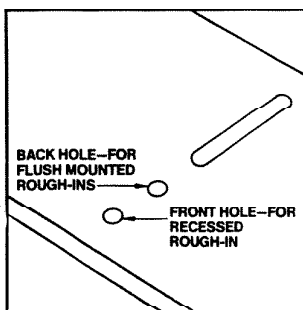

FIGURE 13
2. **For rough-in frames which are recessed into the wall opening.** Insert two shoulder screws (provided) into the front two holes in the rough-in frame. See Figure 13 & 14.
For rough-in frames which are mounted flush with the wall. Insert two shoulder screws (provided) into the back two holes in the rough-in frame. See Figure 13 & 14.